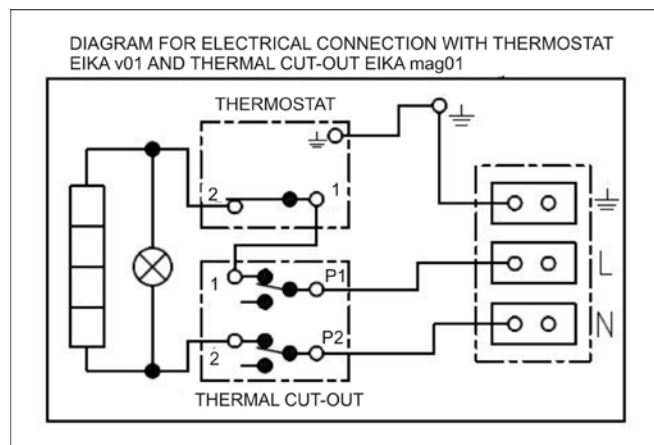

Figure 5
- The wiring diagram is attached to the heater on the side of the electric installation guard (see Fig. 5).